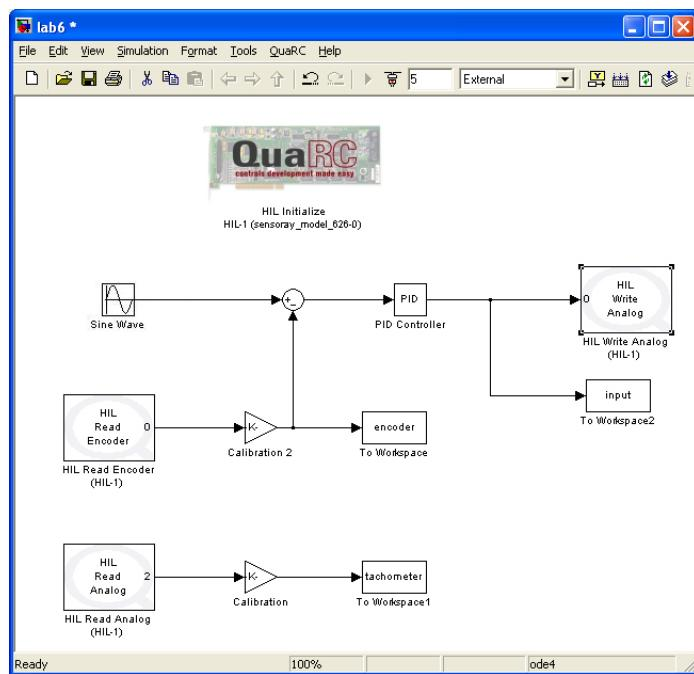

Figure 4.3: Simulink model for the implementation of PID control using frequency response method; sinusoidal reference
4. Now run the system with your “good” values for K , T_D , and T_I and a sinusoidal input whose magnitude is 1 and whose frequency is the crossover frequency that was calculated above; see Figure 4.3 for the Simulink. What is the magnitude of the output compared to the input, and what is the phase of the output relative to the input?